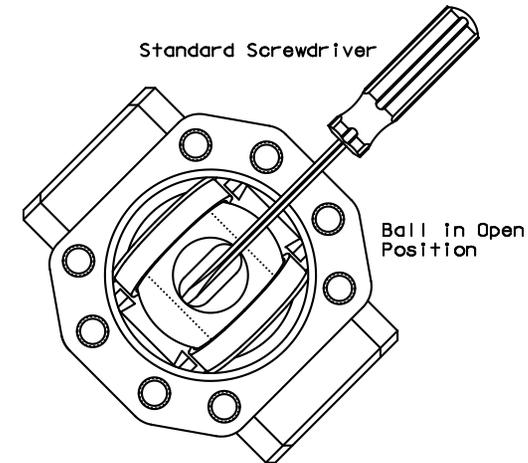

Figure 2
- Insert a large screwdriver or similar tool into the oval slot in the top of the ball, as illustrated in Figure 2. Resting the screwdriver on the valve body, pry the ball and seats loose and upward by pushing down on the screwdriver's handle. Use care not to damage the bonnet gasket sealing surface.